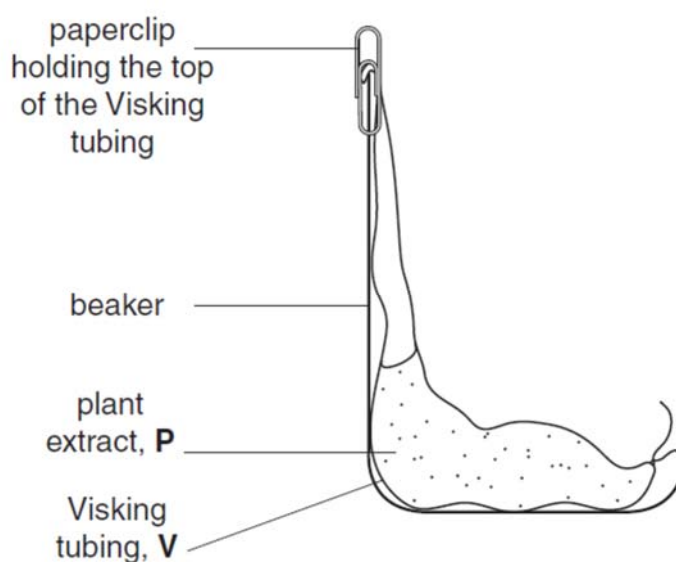

Fig. 1.1
Fig. 1.1 shows the apparatus before the water was added.
- (a) (i)** Water is added to the beaker in Fig. 1.1.
The apparatus in Fig. 1.1 was set-up and water was added and left for 15 minutes. Sample **A** was removed from the water in the beaker.